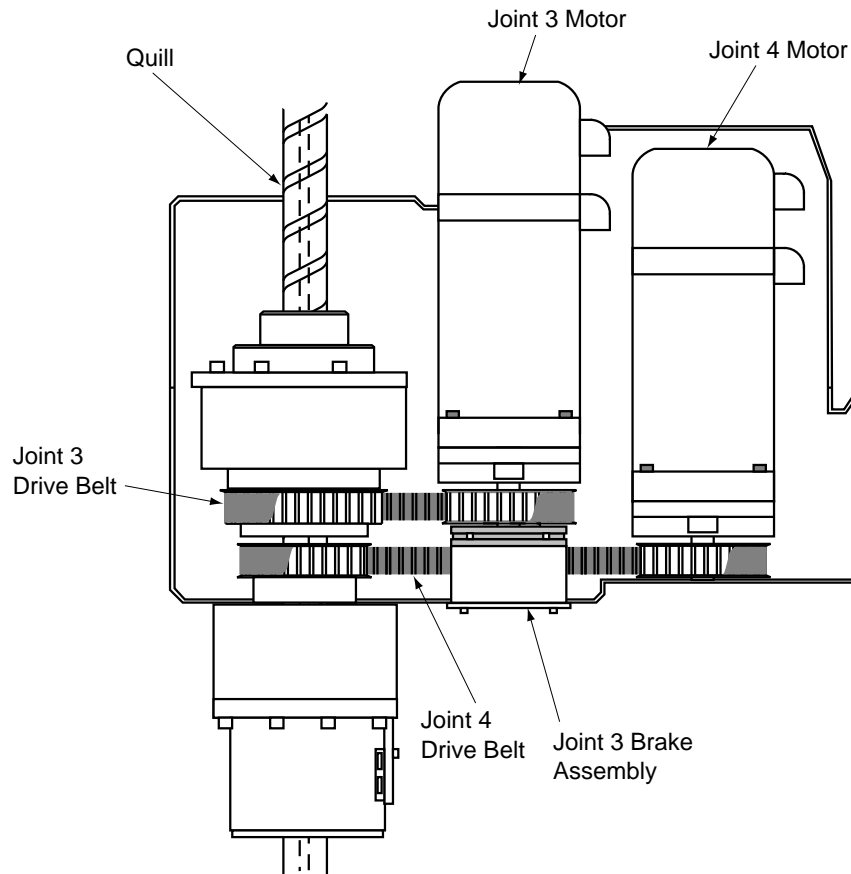

Figure 7-3. Location of Joint 3 and Joint 4 Drive Belts
4. Check the tension of the Joint 3 and Joint 4 drive belts with your fingers. See Figure 7-3. The belts should feel tight to the touch. If there is any noticeable looseness, call Adept Customer Service.